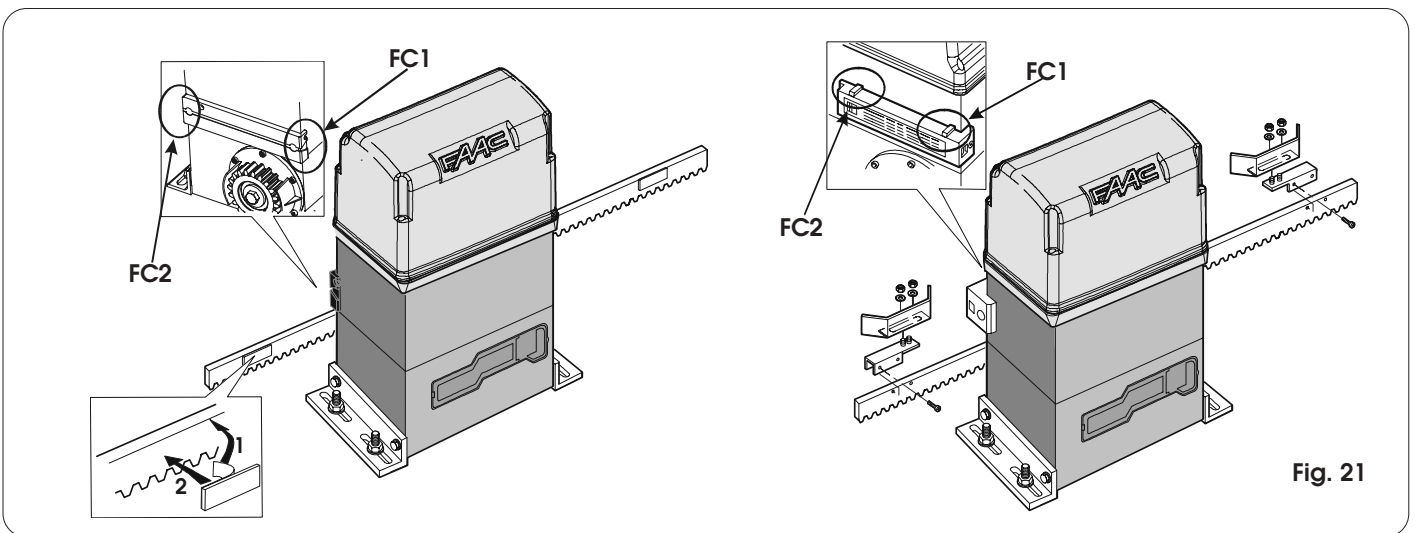

Fig. 21
- Release the operator and, sliding the gate manually, check the efficiency of the limit-switches, controlling the status LEDs of the inputs (see par.6.1). If you look at the gate from the side where the operator is installed, the FC1 LED should go off when the stop position of the left to right movement is reached, and FC2 should go off when the stop position of the right to left movement is reached (also see fig.21).